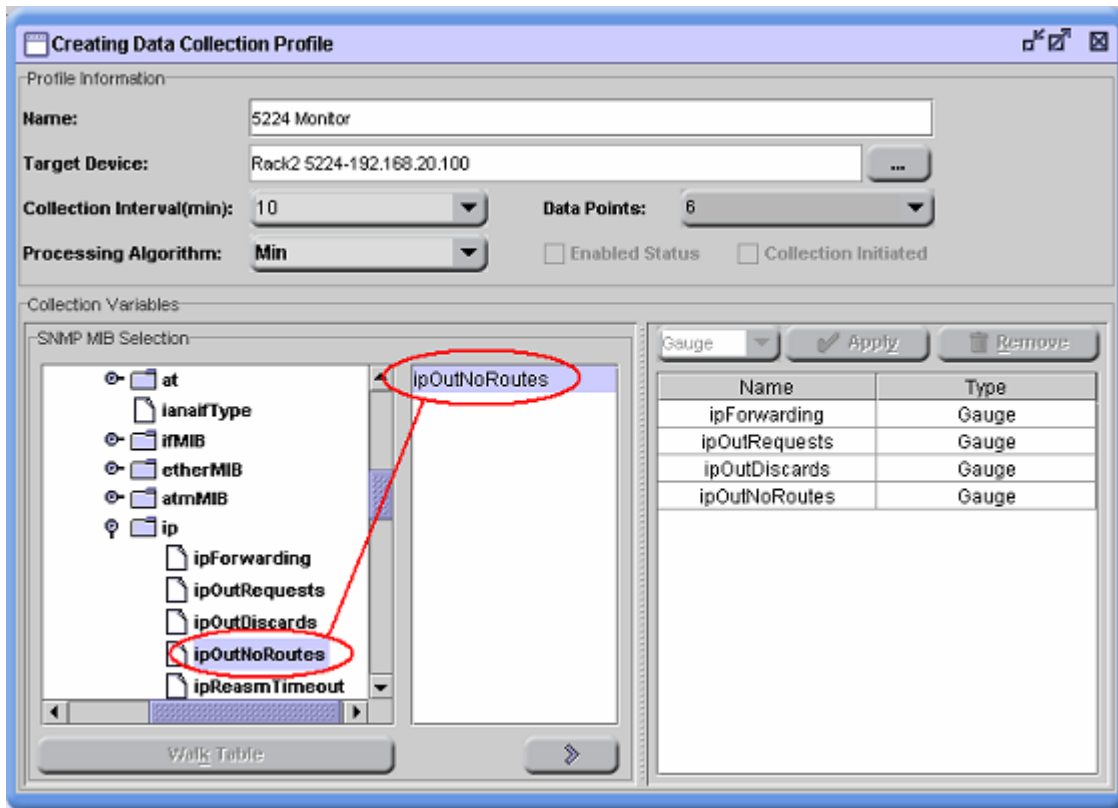

Figure 5. Selecting MIB elements for monitoring.
8. In the SNMP MIB Selection panel, select the MIB elements from which you would like to collect statistical samples. As you browse through the MIB directory, the elements that can be monitored will appear in the screen on the right when they are highlighted.. (See Figure 5).